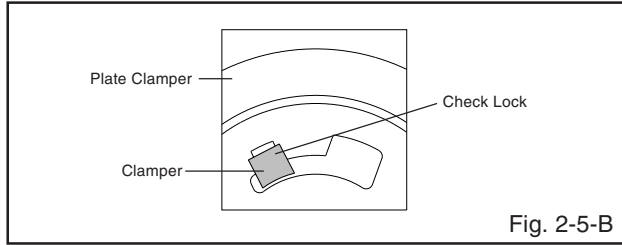

Fig. 2-5-B
**2-5: CLAMPER ASS'Y (Refer to Fig. 2-5-A)**
1. Press the Clamper and rotate the Plate Clamper clockwise, then unlock the 3 supports ①.
1. In case of the Clamper Ass'y installation, install correctly as Fig. 2-5-B.